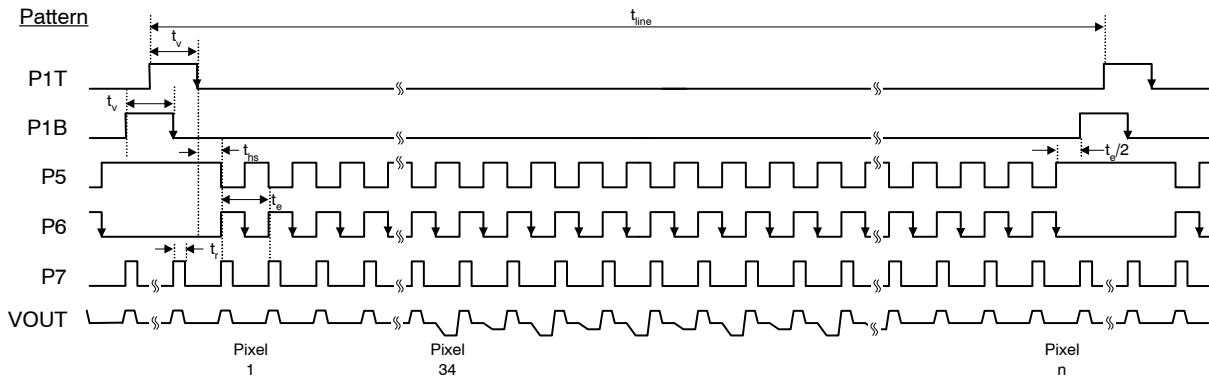

**Figure 18. Photodiode Transfer Timing**
1. Refer to timing diagrams as shown in Figures 18, 19, 20, 21 and 22.
The timing sequence for the clocked device pins may be represented as one of seven patterns (P1–P7) as shown in the table below. The patterns are defined in Figure 18 and